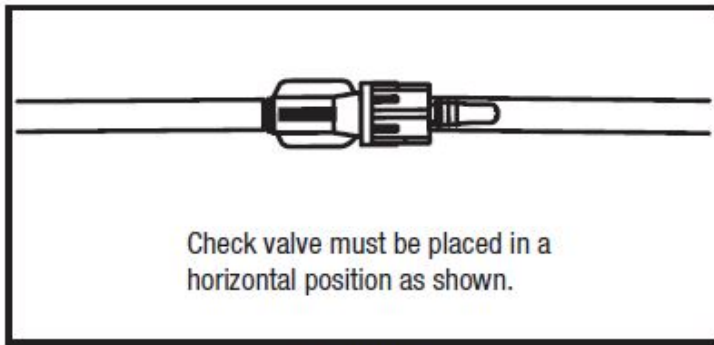
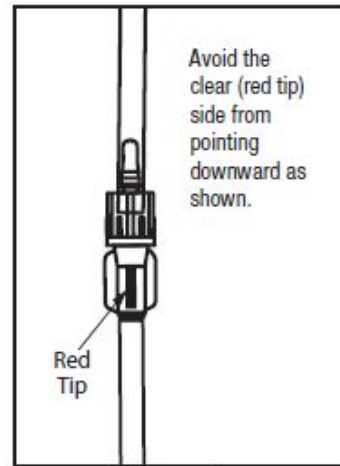

Figure 4a
Figure 4b
- Check valve must be placed in a horizontal position (Figure 4a, page 2). Avoid the clear (red tip) side from pointing downward (Figure 4b, page 2). See step 3 on page 3 or 4.